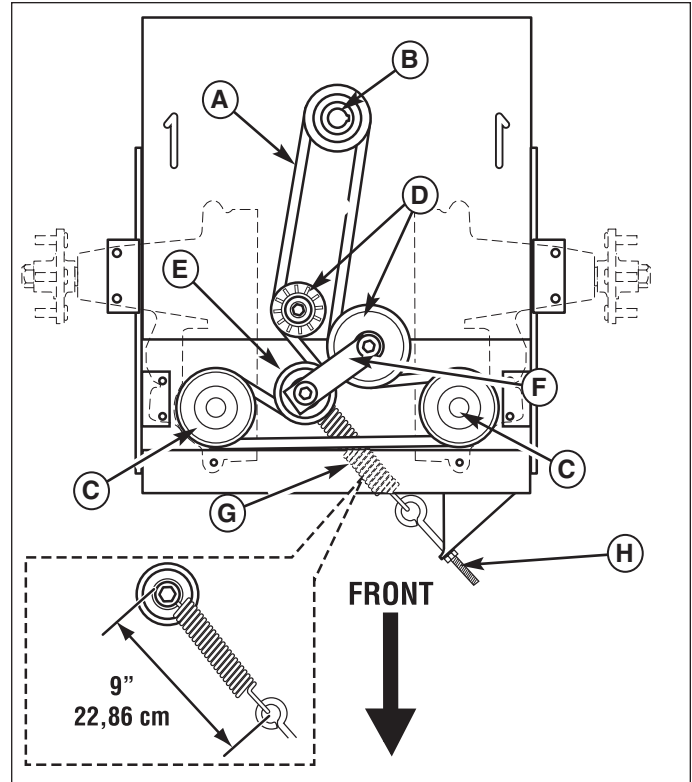

Figure 25. Hydraulic Pump Drive Belt Replacement (Shown from Below)
3. Loosen the nut towards the front of the machine on the spring anchor hook (H, Figure 25) to release the majority of the belt tension. Use caution and remove the nut to completely release the tension.
5. Reinstall the anchor hook (H) into the anchor tab and loosely fasten the nut. Adjust the spring until a measurement of 9" (22,86 cm) is achieved from the outside of the spring hooks. Tighten nut.